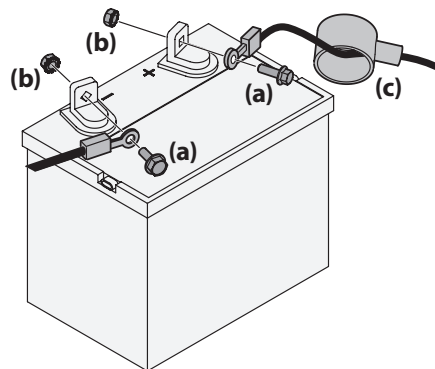

Figure 17
- If present, remove the plastic cover from the positive battery terminal. Attach the red connector to the positive battery terminal (+) using the bolt (a) and hex nut (b). See Figure 17.
- If present, remove the plastic cover from the negative battery terminal and attach the black cable to the negative battery terminal (-) with the bolt (a) and hex nut (b). See Figure 17.
- Position the red rubber boot (c) over the positive battery terminal (+) to help protect it from corrosion. See Figure 17.